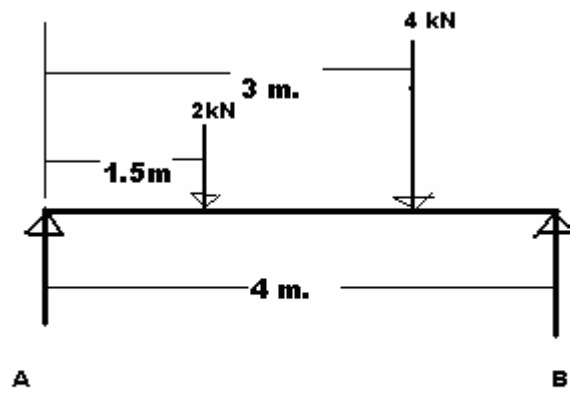

FIG NO. 3
- (b) A simply supported beam 4 m long is subjected to two point loads of 2 kN and 4 kN each at distances of 1.5 m and 3 m from left end. Draw Shear Force and Bending Moment diagram for the beam.as shown in FIG. NO.3 **07**